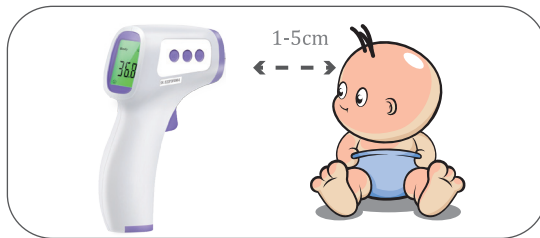

Figure 2: Measuring position and distance
- The thermometer is aligned with the middle of the forehead to measure body temperature (between the eyebrows above) and keep the vertical distance, press the On/measure button, temperature display immediately, see Figure 2.
Incorrect test position.	See Figure 2 Measuring position and distance.